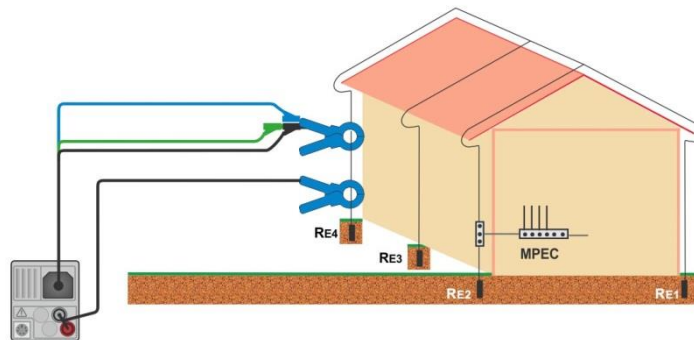

Figure 7.57: Contactless earthing resistance measurement
- › Clamp on object under test, see **Figure 7.57**.